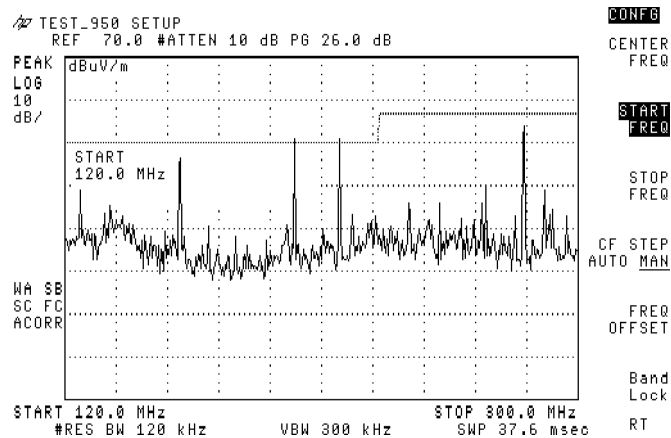

Figure 3-41. Selecting a Start Frequency of 120 MHz
7. Press **START FREQ**, 120, **MHZ**. See Figure 3-41.